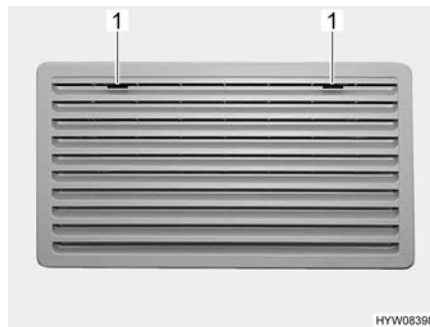
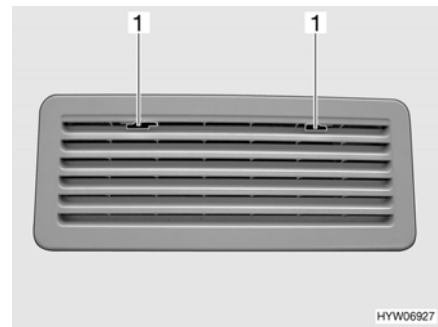

Fig. 183 Refrigerator ventilation grill (Thetford large)
Fig. 184 Refrigerator ventilation grill (Thetford small)
- Move the locking device (Fig. 183,1 or Fig. 184,1) to the middle.